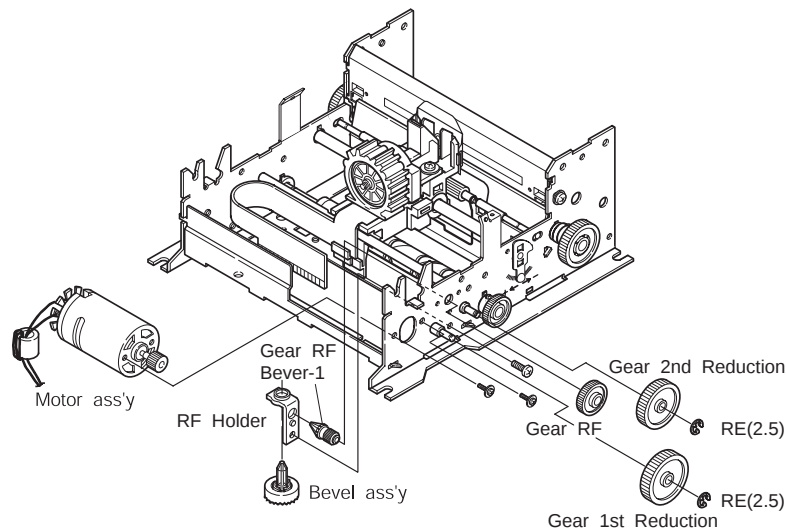

Figure 4-5 Separating Ribbon Feed Block
11. Disassemble the Gear 1st Reduction. The Gear 2nd Reduction. Disassemble the Gear RF and the Motor Assembly from the Frame Assembly. (Figure 4-5)
12. Remove the screws to separate the Bevel Assembly and disassemble the Gear RF Bevel-1 through the hole in the Frame Assembly. (Figure 4-5)